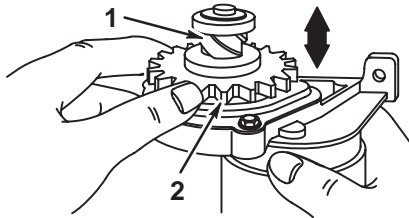

Fig. 92 – Starter Motor Drive
3. Pinion gear must move freely on helix for correct starter operation. If any sticking occurs, this must be corrected, Fig. 92.